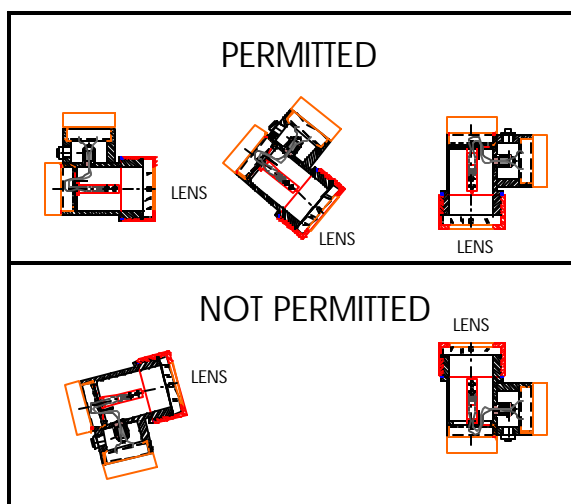

Figure 1
- 2.4 **CAUTION:** Mount this fixture at any angle between the glass lens facing down and the glass lens facing horizontally. Do not mount this fixture with the lens facing at any angle above the horizontal. See figure 1.